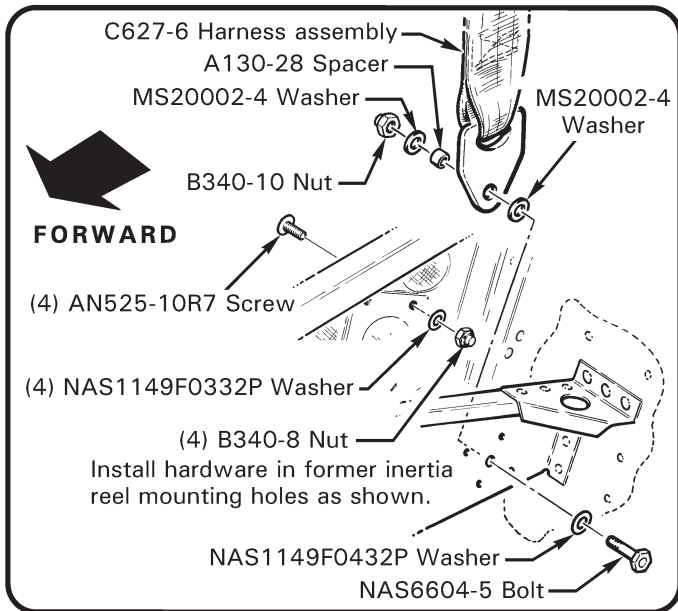

FIGURE 1A
- i. Refer to Figure 1A. Install (4) AN525-10R7 screws, (4) NAS1149F0332P washers, and (4) B340-8 nuts in former harness inertia reel mounting holes as shown. Standard torque fasteners per MM § 23-32 and torque stripe per MM Figure 2-1.